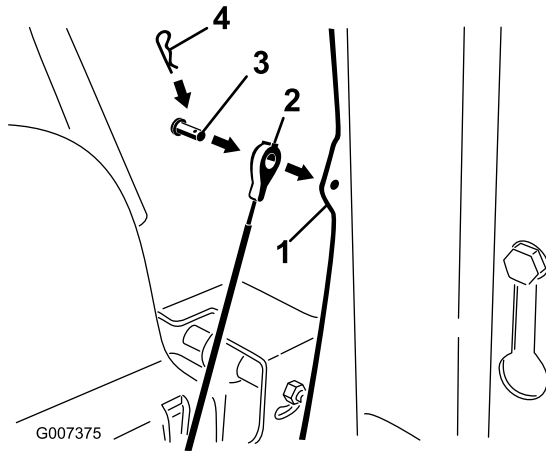

Figure 6
3. Secure the loose end of the seat cable to the frame as shown using the clevis and hair pins (Figure 6).